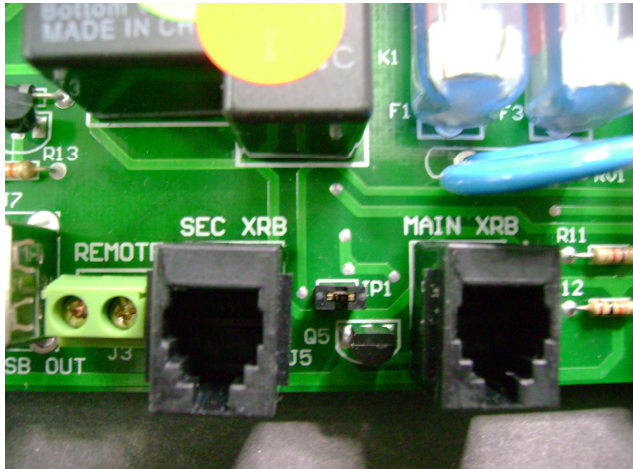

Fig. 9
b) Check if the jumper “JP1” on the Power Board is placed in its position (see Fig. 9).